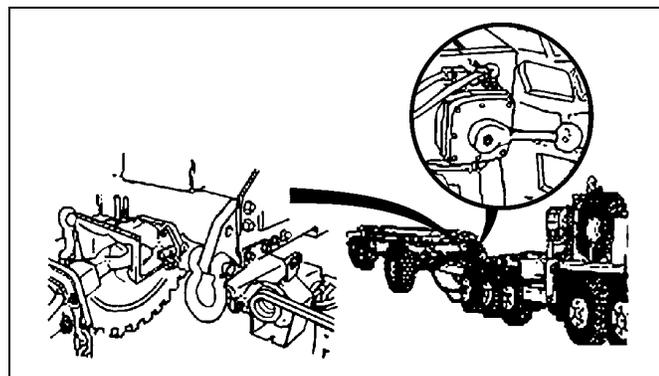

Figure 3-62c. Coupling (continued)
- k. Turn on towing vehicle air valves to apply vacuum or pressure as required (see Figure 3-62c).